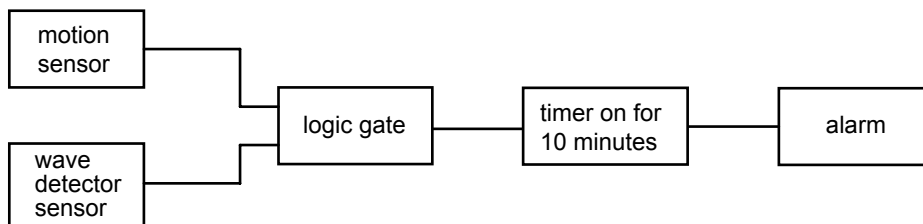

Figure 8
The pool owner then connects both the wave detector sensor and the motion sensor to an alarm via a logic gate. The logic gate must switch on the timer when either the motion sensor or the wave detector sensor or both sensors have a logic output of 1 (Figure 8).
c. Which type of logic gate would best suit the situation described in Figure 8?
- f. Explain in detail the operation of the system shown in Figure 8.